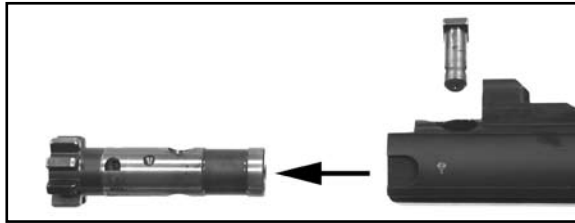

Fig. 42 – Slide the Bolt Head out
- f. Slide the bolt head from the front of the bolt carrier (Fig. 42).